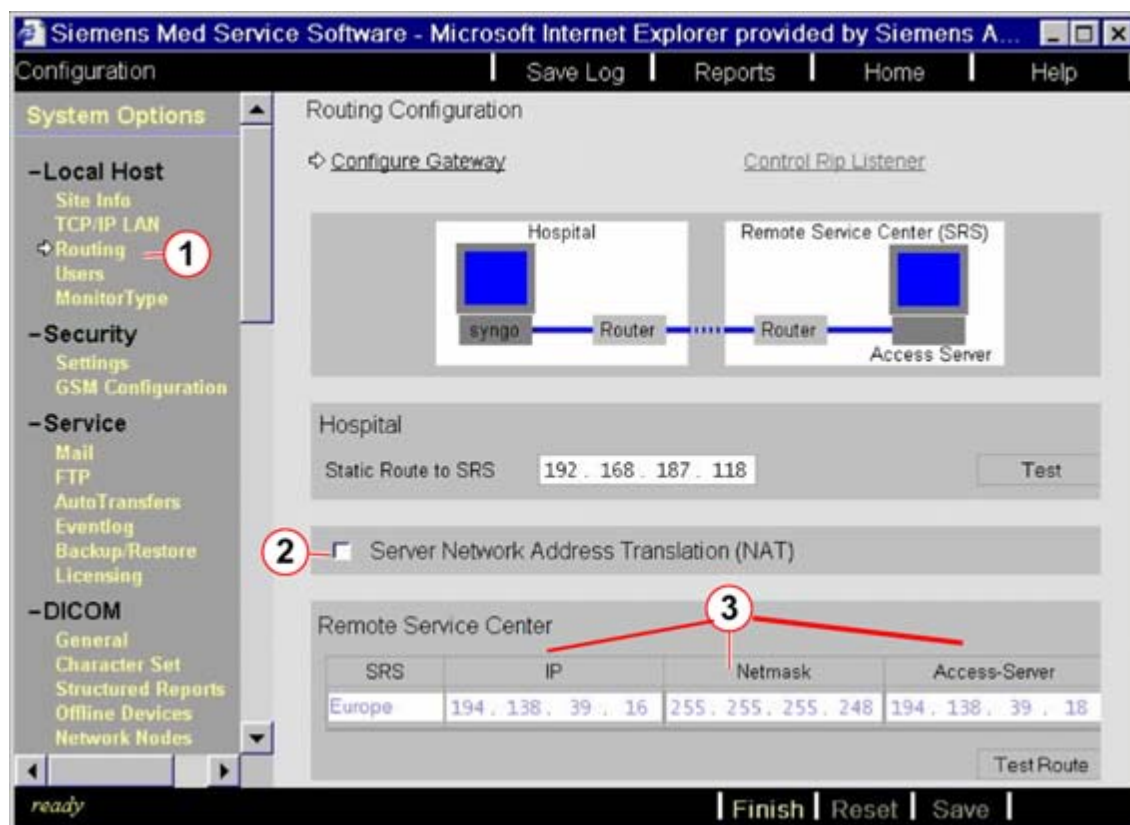

Fig. 26: Routing page with default adjustment (no NAT is used)
- ⇒ Checkbox for outside NAT (2/Fig. 26 / p. 48) must be **deactivated**.
- ⇒ Checkbox (3/Fig. 26 / p. 48) is automatically configured for the corresponding zone of "Remote Service Center".
Configure the routing page as shown in figure (Fig. 26 / p. 48).